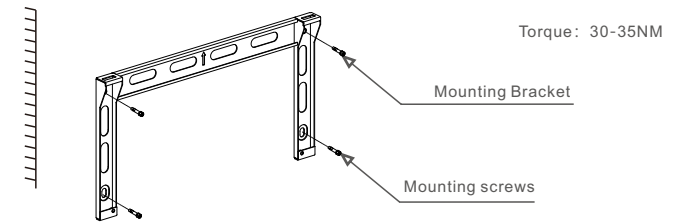
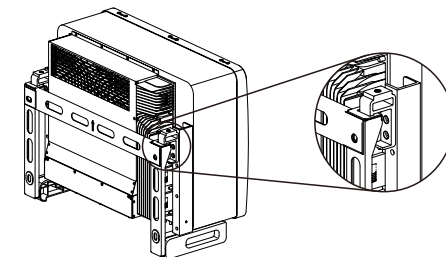

Figure 3.6 PV Inverter wall mounting
Figure 3.7 Install the PV Inverter
Refer to figure 3.6 and figure 3.7 PV Inverter shall be mounted vertically.
1. Refer to Figure 3.6, drill holes for expansion bolt(M10*90) based on the hole diameter of bracket using a precision drill keeping the drill perpendicular to the wall. Max depth is 90mm.
2. Make sure the bracket is horizontal. And the mounting holes (in Figure 3.6) are marked correctly. Drill the holes into wall at your marks.